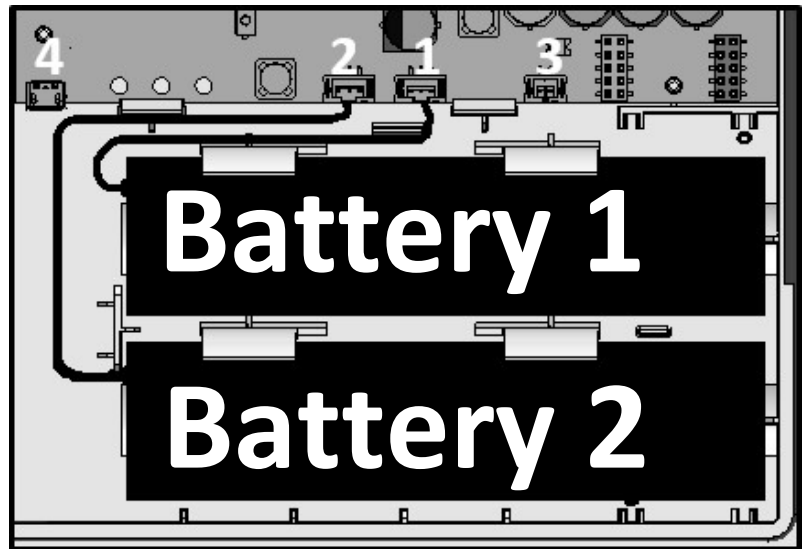

Fig. 1 Gateway inside bottom right view
- Plug the batteries plug into the corresponding connectors (see Fig. 1).